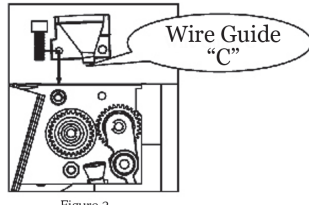

Figure 2
- Press and lock the lever. (figure 2)
- Remove Wire Guide "C" which is fastened to the plate. (figure 2)